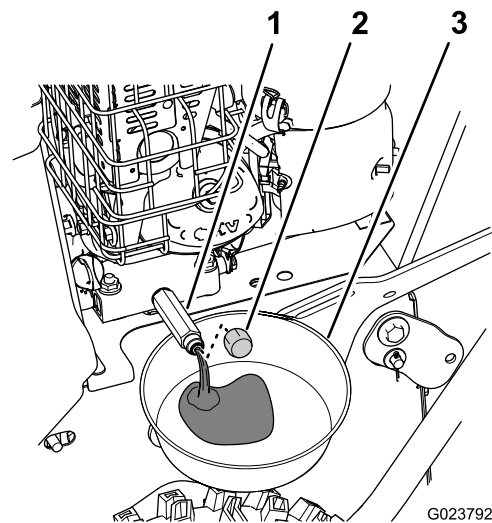

Figure 26
1. Place a pan under drain fitting and remove the oil-drain cap (Figure 26).